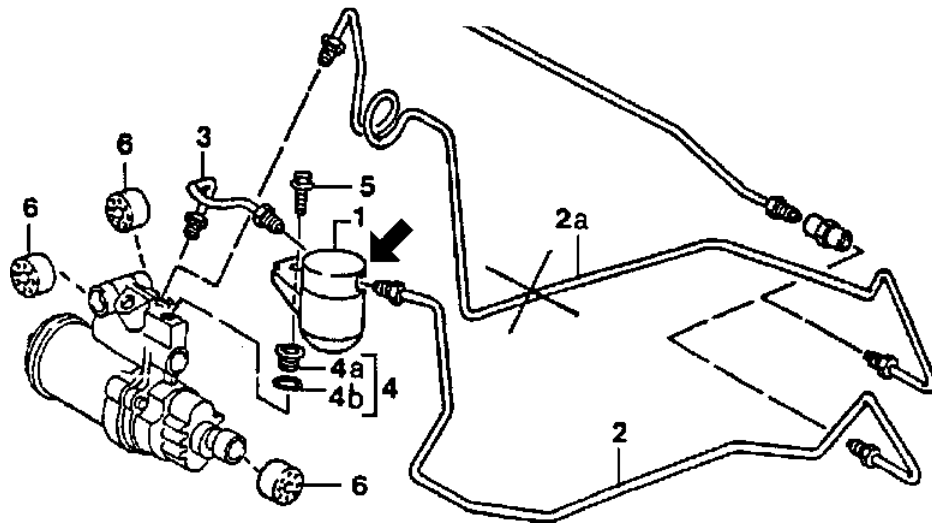

Figure 1
**General Information:** To reduce the operating noise from the hydraulic brake booster pump, a damper (arrow, Figure1) can be installed between the pump and the brake system accumulator.